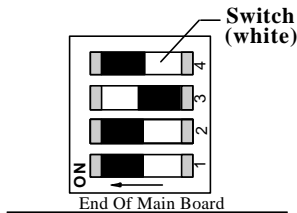

Figure 4-11: Apex PDT DIP Switch Configuration
4. Position DIP Switch 3 to the ON position (normally OFF). A small jeweler's screwdriver works well for this purpose. Refer to Figure 4-11, p. 4-15.